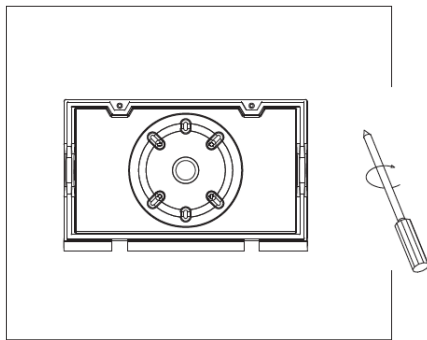

Figure 7
Step 5: Align the holes on the lamp base with the holes on the wall, and tighten the screws (Figure 7) ;